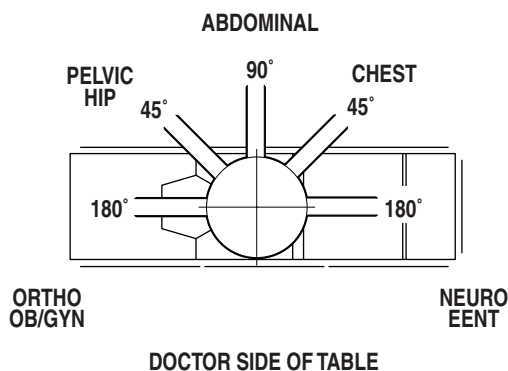

Figure 8. Main Lighthouse Radial Arm Positioning
4. Refer to figure 8 to approximate the desired radial arm position for locating the lighthouse over the patient.